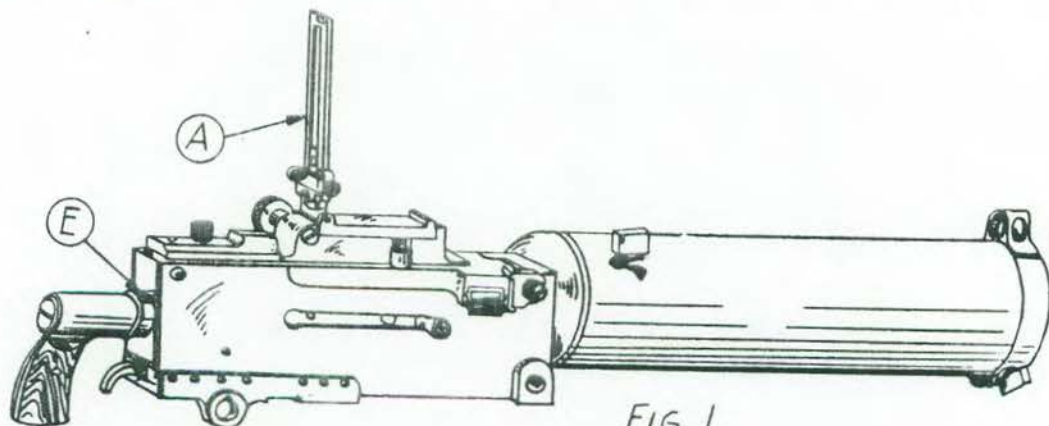
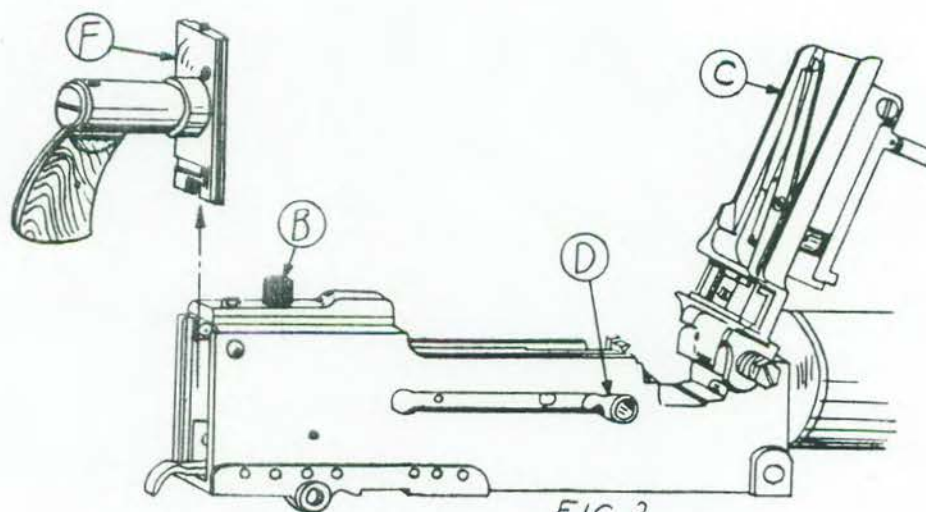

FIG. 1
FIG. 2
- 1 RAISE REAR SIGHT (A), FIG. 1, TO POSITION SHOWN. PULL BACK ON LATCH KNOB (B), FIG. 2, AND RAISE COVER (C). PULL BACK ON BOLT HANDLE (D) AND WITH A SCREWDRIVER, PUSH IN ON DRIVING SPRING ROD (E), FIG. 1, AND TURN TO THE RIGHT A QUARTER TURN. PUSH (D) BACK TO POSITION SHOWN IN FIG. 2. NOW PUSH FORWARD ON KNOB (B) AND LIFT BACK PLATE (F) FROM SLOTS IN CASING.